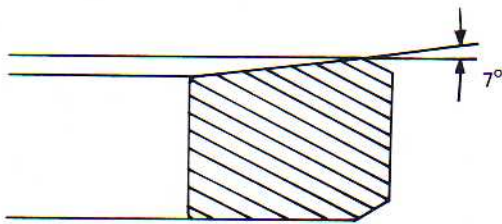

Fig. 8-29. Side angle
- 3) Both the first and second rings used in RL250 are of the keystone type (Fig. 8-29), necessitating special care in their installation. Be sure to install them so as not to be reversed. It will not only be impossible to insert piston with rings fitted in the cylinder, but there will be danger of damaging the piston and piston rings.